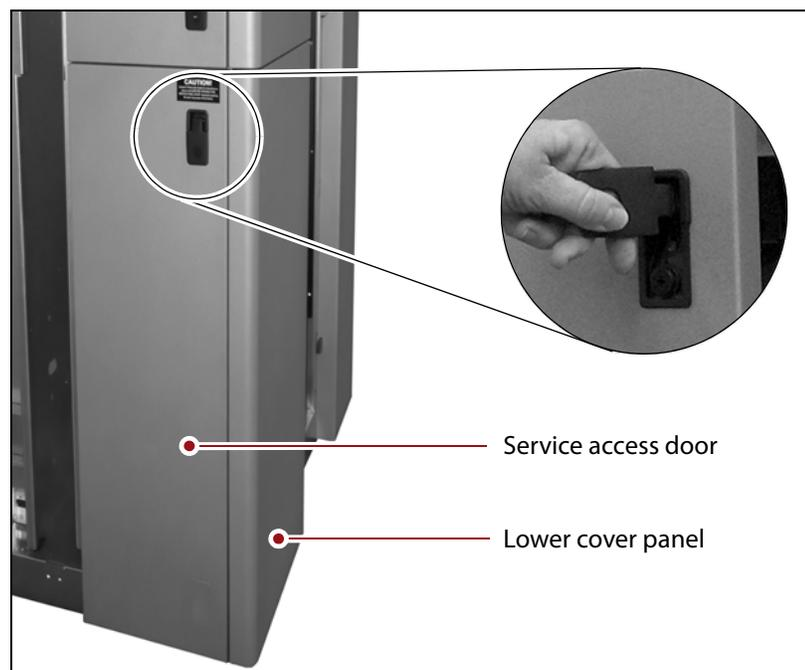

Figure 12 Open the lower service access door (service frame 1 shown).
2. Remove the lower cover panel on the end of the service frame to provide access to the transporter in the service bay. See Figure 12 on page 14 for the location of the cover panel.